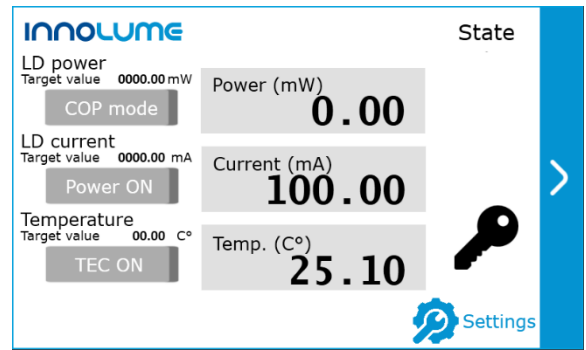

Figure 10 – Key
20. The laser emission wouldn't turn on if there is no Key in laser bench or the key is in the locked position. In this case, when the “Power ON” button is taped a key icon will appear in the state column on the right side of the screen (fig. 10). To turn on the laser emission, Turn the key to the unlock position and tap the “Power on” button.